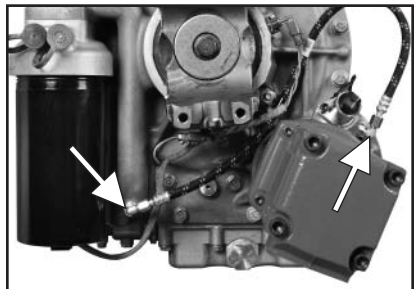

Fig. 27
8. Install the 90° elbow in the transmission pressure port as shown. Connect hose to the transmission port as shown. Connect other end of hose to the P.T.O. 90° elbow located near the P.T.O. solenoid. (Fig. 27)